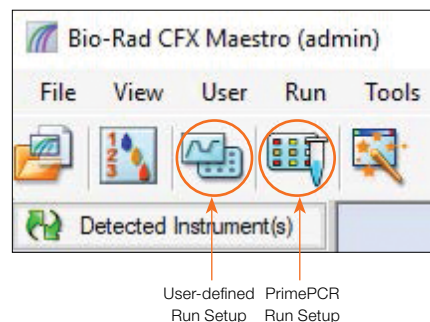

Fig. 7. Main window toolbar.
- On the main window toolbar, click **User-defined Run Setup** or **PrimePCR Run Setup** (Figure 7)